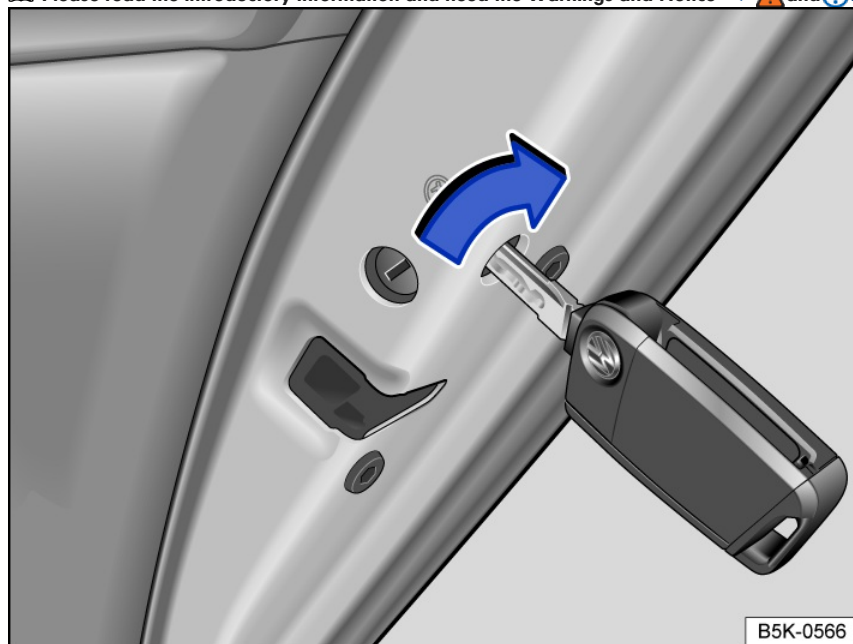

Fig. 60 On the front of the right rear door: manually locking the vehicle with the vehicle key.
- Insert the key bit or emergency key into the slot and turn it fig. 60.